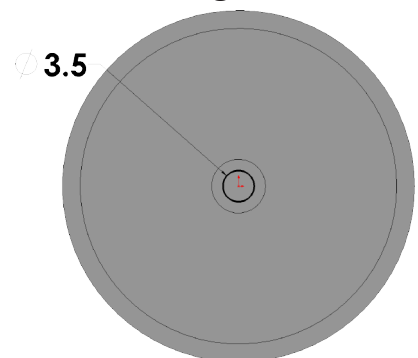

Fig. 10
Step 3. Click **Circle**  (S) on the Sketch toolbar.
Step 4. Draw a circle for the hole at Origin , **Fig. 10**.
Step 5. Click **Smart Dimension**  (S) on the Sketch toolbar.
Step 6. Dimension axle hole **diameter 3.5**, **Fig. 10**.